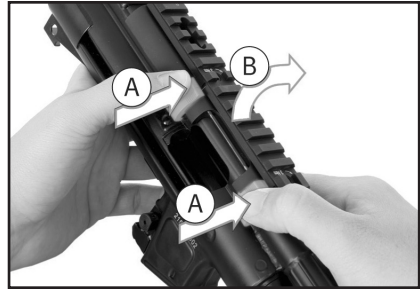

Fig. 42 – Remove Scope Mount
5. Pivot the Picatinny rail scope mount from right to left. Turn the scope mount from the receiver and remove it (Fig. 42).